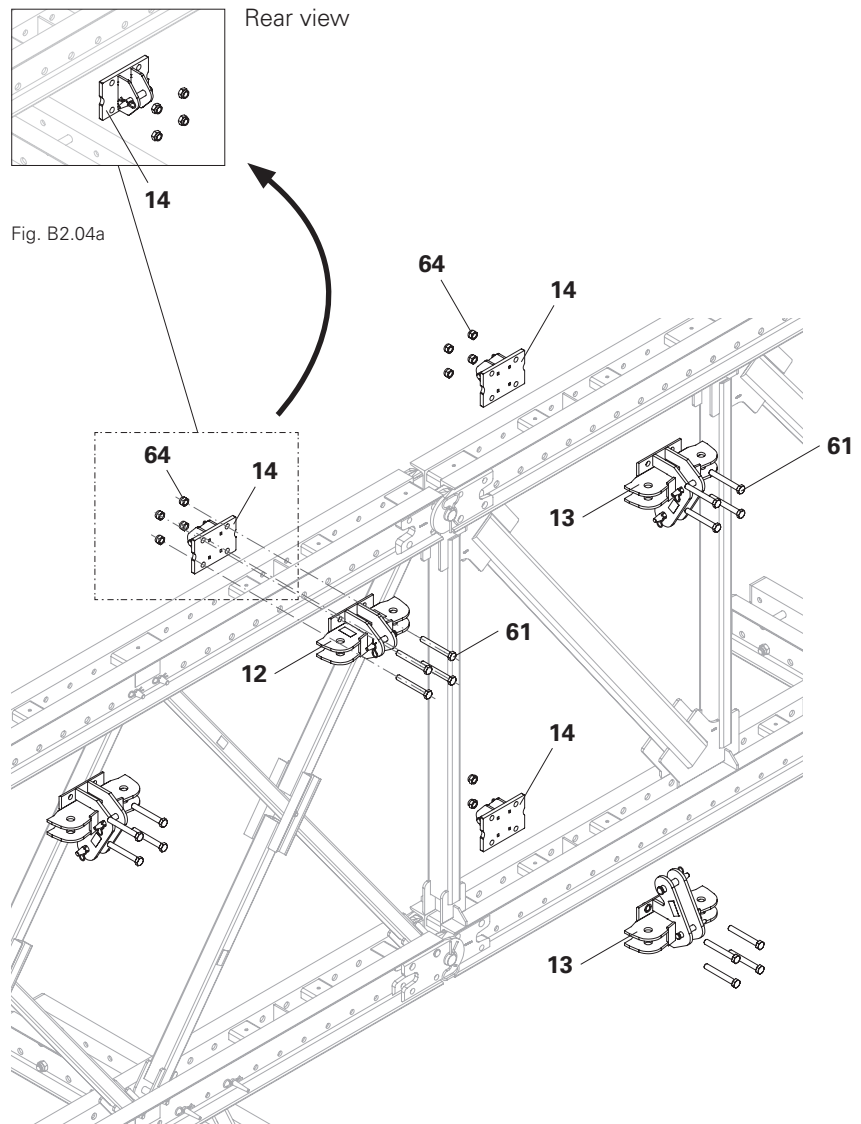

Fig. B2.04
When connecting a single truss to the truss package, coupling connections (14) must be fitted on the rear side. In this case, a coupling connection (14) is fitted in the top chord and bottom chord together with a bracing connector (12) or vertical bracing shoe (13). (Fig. B2.04)